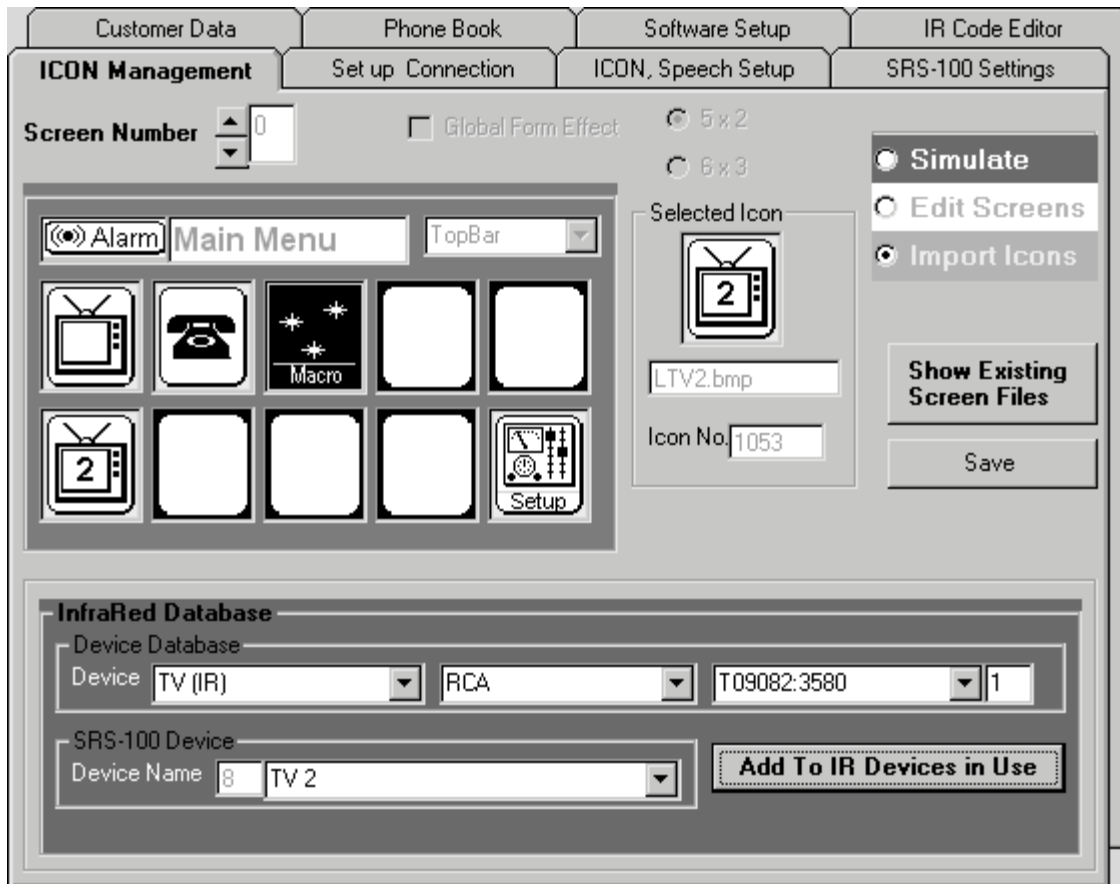

Figure 6. IR Devices
3. Select the device using the three list boxes in the **Device Database** section of the **InfraRed Database** group box. See figure 6.